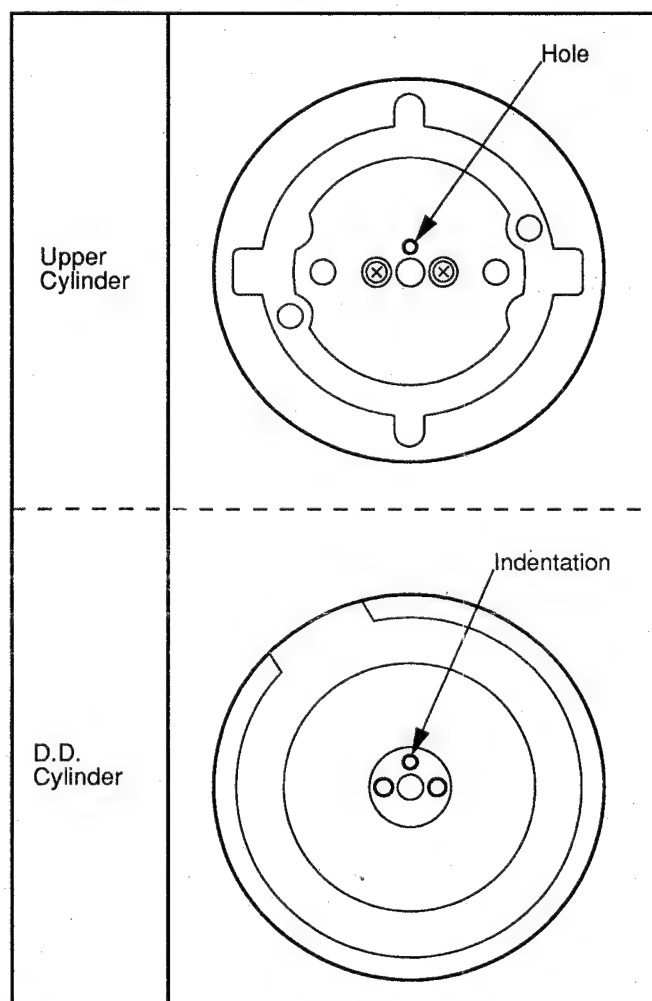

Fig. M4
1. Install the new Upper Cylinder Unit carefully so that the hole in the new Upper Cylinder Unit is properly matched to align the hole on the Upper Cylinder to the center of the indentation on the D.D. Cylinder. For details on the installation position, refer to Fig. M4.